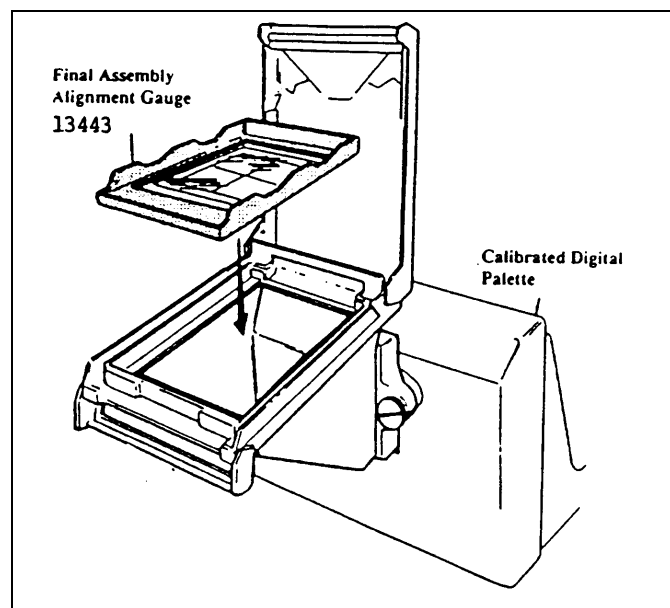

Figure 4-37. Electrical/Final Assembly Alignment of the CRT
8. Insert the final assembly alignment gauge into the camera back (Figure 4-37).